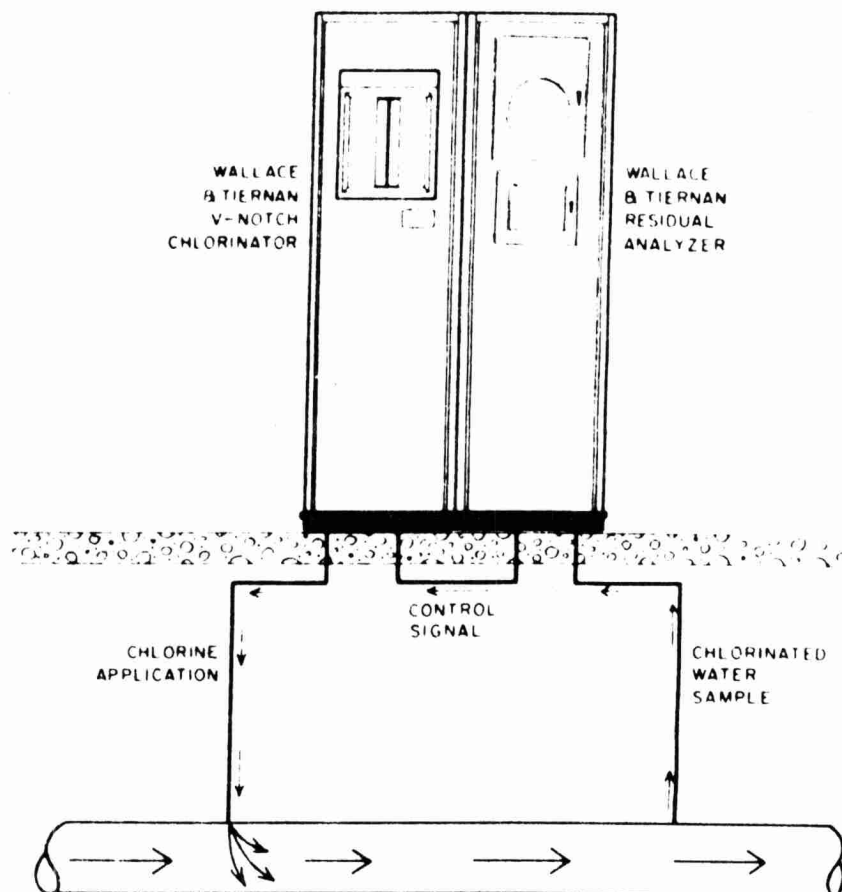

FIG. 3-1. DIRECT RESIDUAL CONTROL. (Closed-loop).
3. DIRECT RESIDUAL OR CLOSED LOOP CONTROL (see Fig. 3-1)